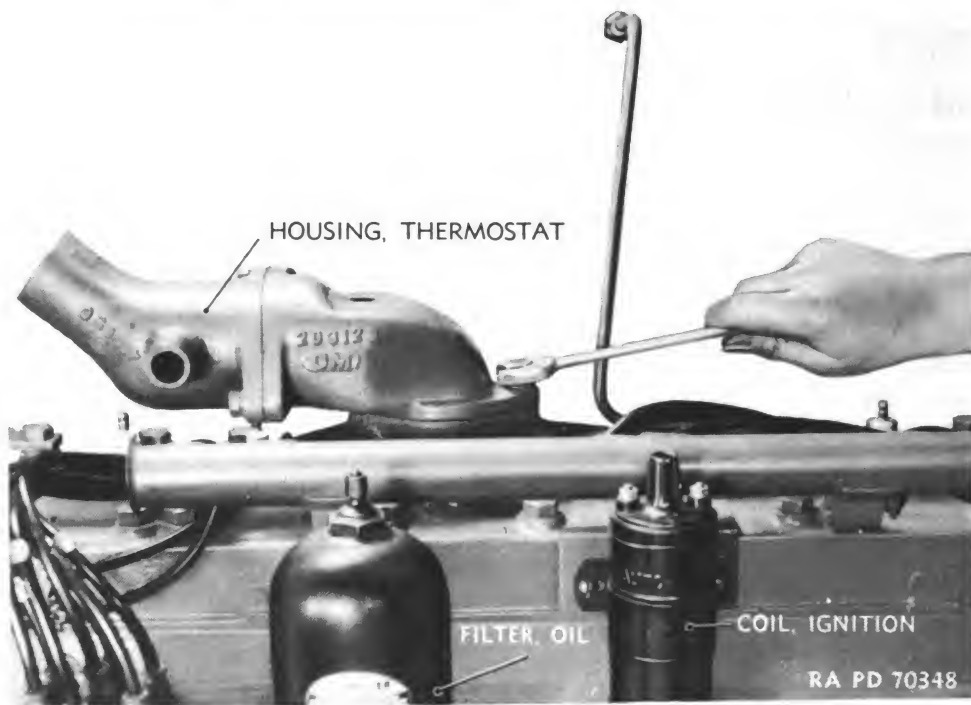

Figure 24 — Thermostat Housing Removal
(6) Disconnect fuel line by disengaging flare tube fitting at back of carburetor. Remove air cleaner, carburetor, and throttle box from engine as a unit, by taking out cap screws holding throttle box to upper manifold flange.
(7) Disconnect fuel line connection at fuel pump, by loosening flare tube fitting nut. Take out the two cap screws that hold fuel pump to engine and remove pump.
(8) Remove manifold.
(9) Remove starting motor.
(10) Unscrew machine bolts from clamps holding hose sections at top and bottom of bypass, and work bypass pipe out of the hose sections.
(11) Take out the two cap screws connecting the thermostat housing to the engine head, and remove housing (fig. 24).